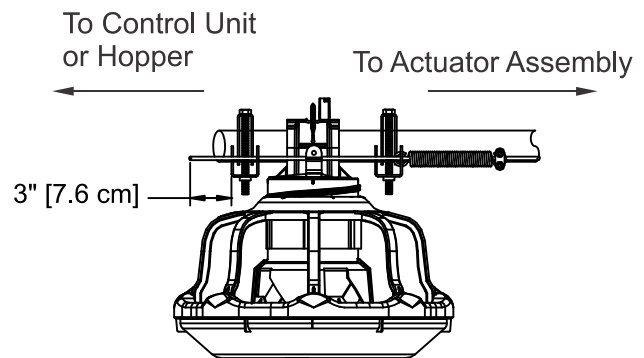

Figure 75. Trim excess actuator wire at control/hopper
5. With the actuator in the open position and the brood gate open tighten the 10-24 screw for each pan. With the brood in the open position. Go to the control unit or hopper end to trim the extra actuator wire. Leave **3 inches [7.6 cm]** of excess wire past the spring bracket, see figure 75.